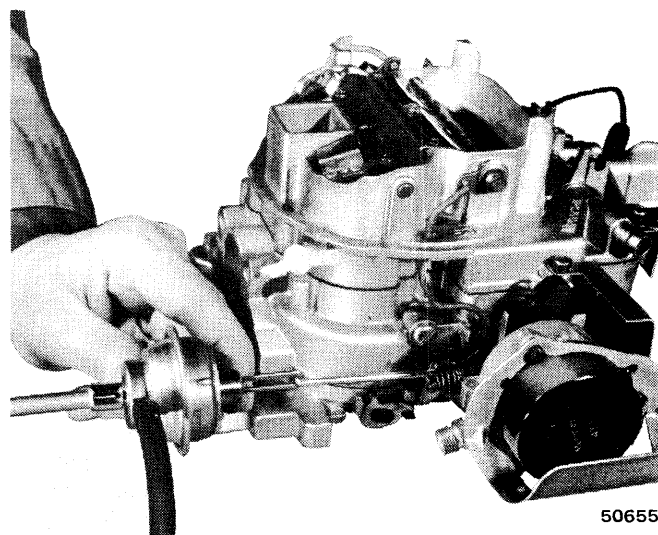

Fig. 4-134 Adjusting Initial Choke Valve Clearance
(6) Adjust clearance by turning screw located at rear of diaphragm housing (fig. 4-134).
(7) Adjust fast idle cam linkage.
(8) Loosen choke cover screw and rotate cover to relieve tension on choke bimetallic coil. Set choke cover to specifications and tighten choke cover screws.